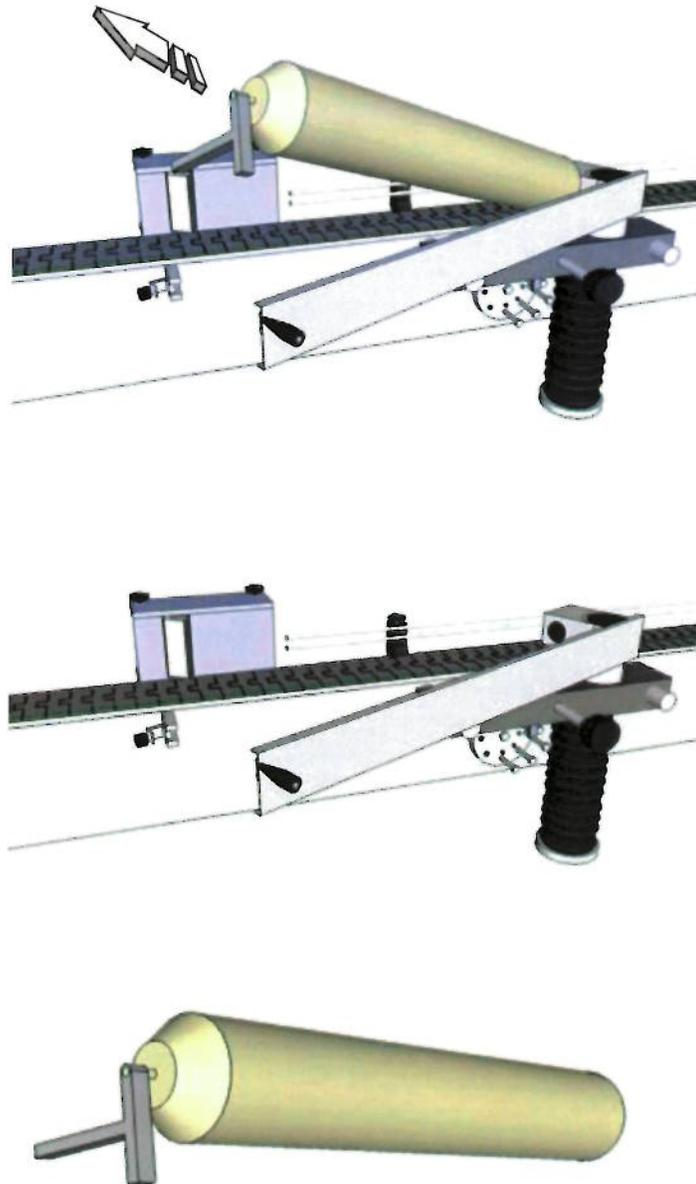

fig.5
- extract the worm screw by pushing in the direction indicated by the arrow (fig.5):